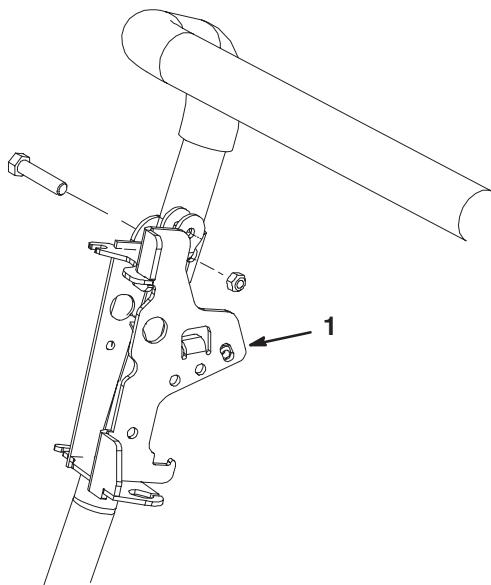

Figure 8
15. Remove the (2) screws and nuts securing the control bracket and the right end of the operator presence bail, if so equipped, to the handle (Fig. 8).
16. Secure the new throttle/control bracket and the operator presence bail, if removed, to the handle with (2) M8 x 1-1/4 screws and M8 nuts (Fig. 8).